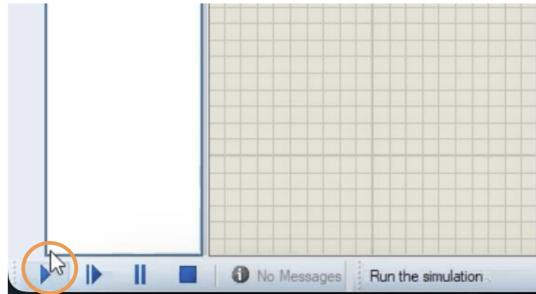

Figure 24: Click the run button in the bottom left of the Proteus screen to start your demo
9. Click the run button in the bottom left of the Proteus screen to start your demo. To start your demos after uploading your .hex files, you must click that button. (Figure 24).